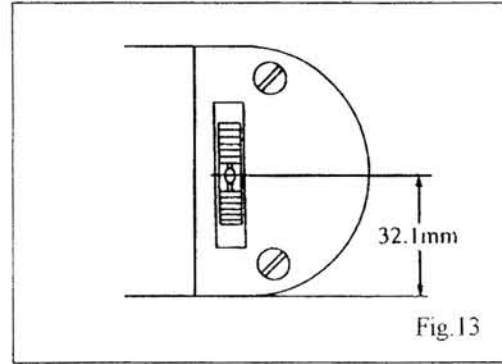

Fig.13
### (Fig.13)
- 4) Adjust to be 32.1 mm from the edge of the needle plate to the center of the needle hole on the feed dog. (Fig.13)